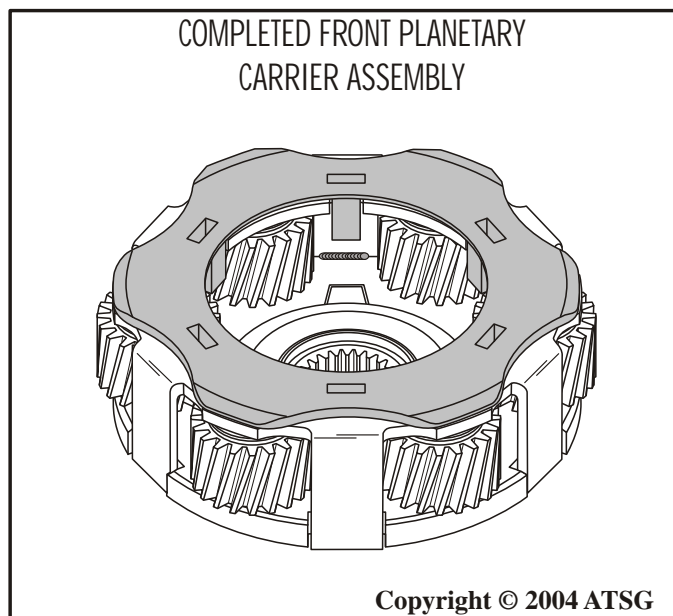

Figure 103
6. Set completed front planetary carrier assembly aside for the final assembly process. Refer to Figure 103.